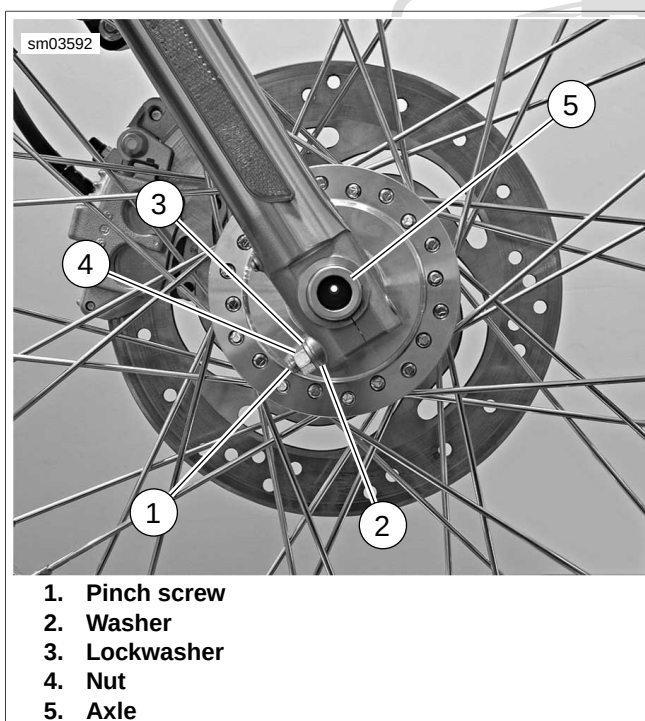

Figure 2-6. Right Side Front Wheel Mounting: Typical (Laced Front Wheel Shown)
4. Remove axle nut (1) and flat washer (2) from axle on left side of vehicle.
5. See Figure 2-6. On right side of vehicle, loosen nut (4) on pinch screw (1). Pull axle out of hub while supporting wheel.
3. See Figure 2-6. With pinch screw (1) loose, insert threaded end of axle (5) through right side fork. Push axle through fork and wheel hub until it begins to emerge from left side of hub.